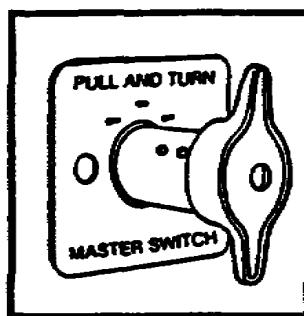

Figure 21. EPC step 1a and vehicle MASTER SWITCH set at ON.
(1) Refer to Figure 21, since EPC step 1a checks the vehicle power.